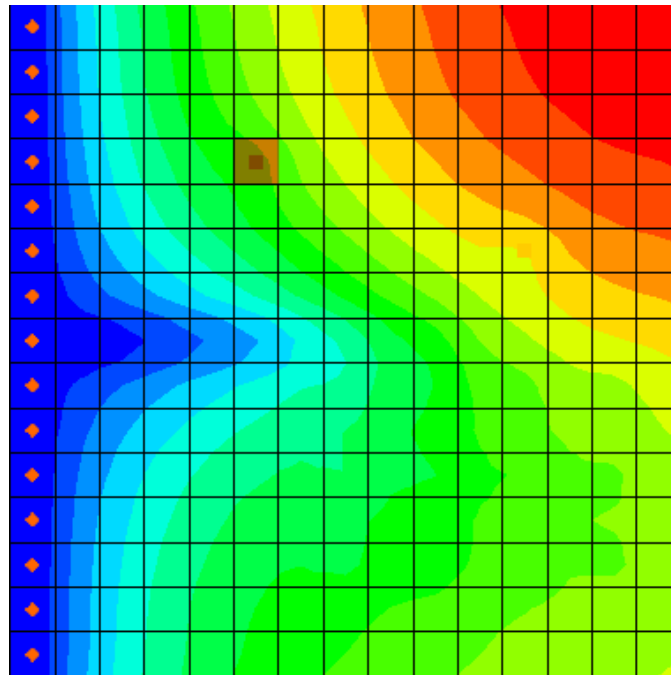

Figure 6 The well cell to select
- Using the **Select Cell**  tool, right-click on the well cell in the upper left (*IJK* coordinates of “4, 6, 2”, Figure 6) and select **Sources/Sinks...** to bring up the *MODFLOW Sources/Sinks* dialog.